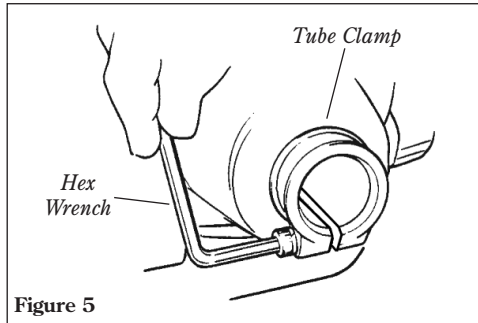

Figure 5
1. Place the powerhead on a clean, flat surface, spark plug facing up. See Figure 5.
2. Use the 4 mm hex wrench to loosen the tube clamp screw. See Figure 5.